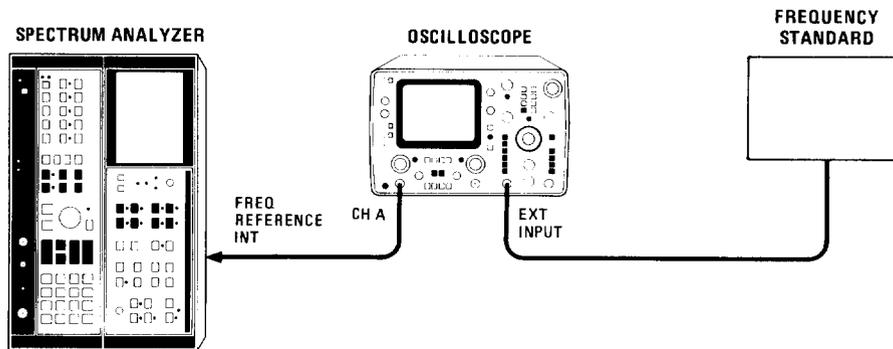

FIGURE 38. 10 MHz STANDARD ADJUSTMENT SETUP
1. Position instrument on right side as shown in Figure 38, and remove bottom cover.